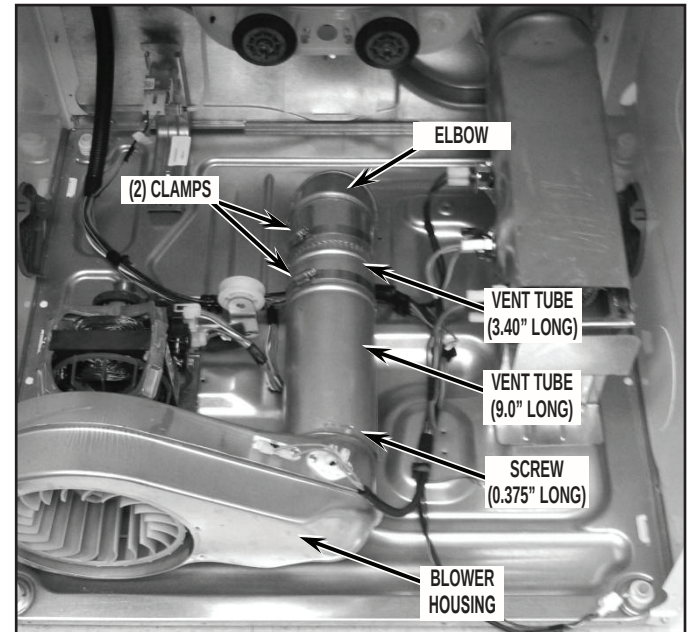

FIGURE 18
7. Attach the 229 mm (9.0") long vent to the blower housing using the 3/8" long screw removed in step 13 of "Procedure for Dryer Disassembly section". See *Figure 18*.
9. Attach vent tube sub-assembly to the 229 mm (9.0") long vent tube within dryer as shown in *Figure 18*.
10. Assure the positioning of the bottom exhaust vent assembly then securely tighten the clamps. See *Figure 18*.